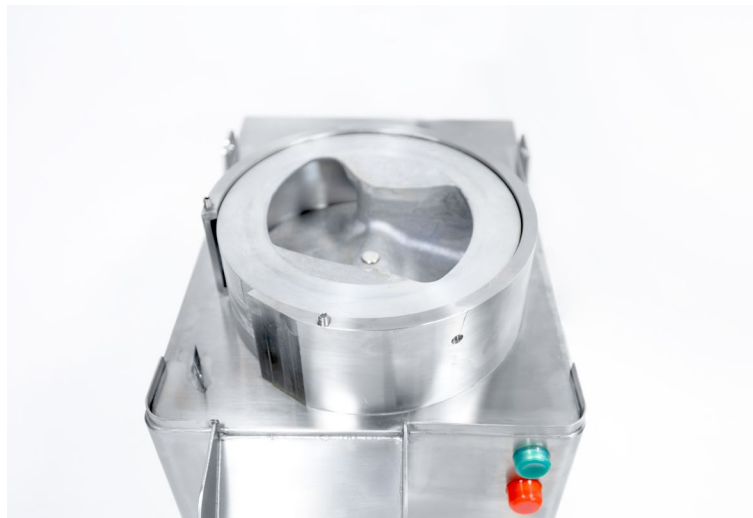

Figure 3
2. Guide the Rotor into position and drop over the Metal Rods. Rocking it back and forth will help seat it in place. When it is seated, the Center Nub will be slightly above the Rotor Plate and the outer edge will be flush (*Figure 3*).